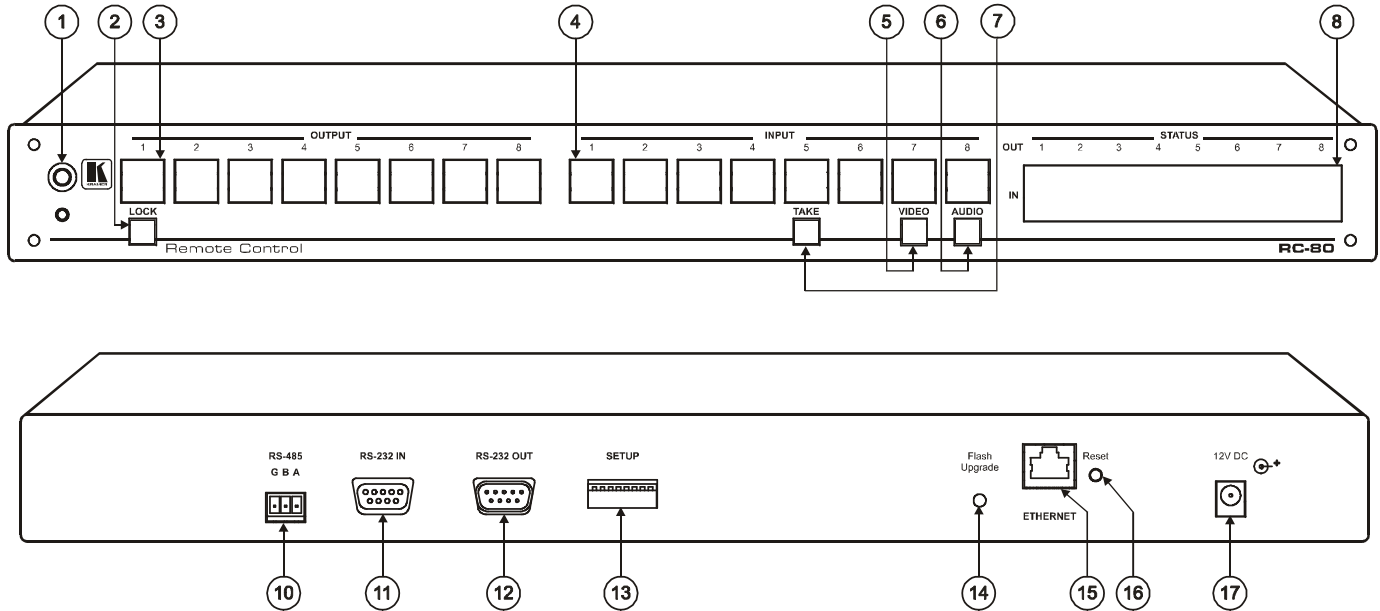

Figure 1: RC-80 Remote Control1
- Figure 1 illustrates the **RC-80** Remote Control